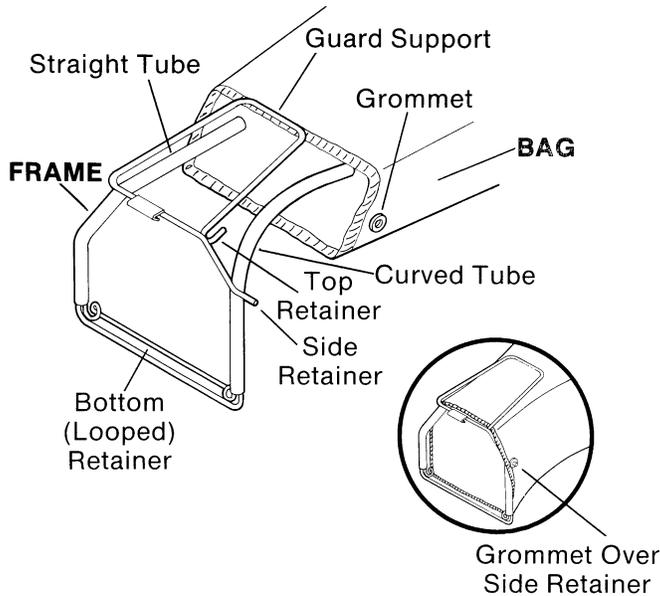

FIG. 8
- A. Position grass catcher frame as shown in Fig. 8.